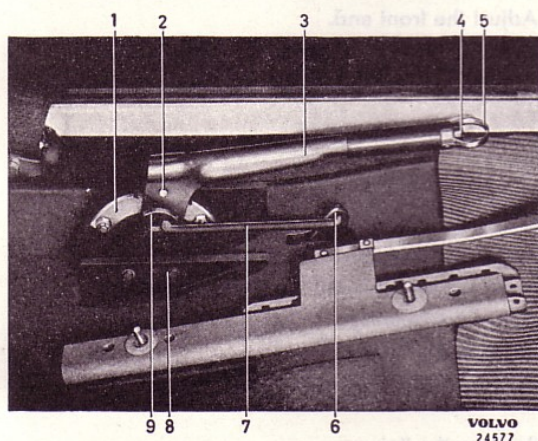

Fig. 50. Handbrake parts, P 1800.
2. Remove the split pin and washer on the shaft lever (6, Fig. 50). Turn the pull rod (7) so that it can be removed from the handbrake lever. Remove the ratchet segment (1).
3. Unscrew the bolts for the support attachment (8) and drive out the pin and attachment. Lift off the lever (3).
2. Release the handbrake and disconnect the pull rod (7, Fig. 50) from the shaft lever (6).